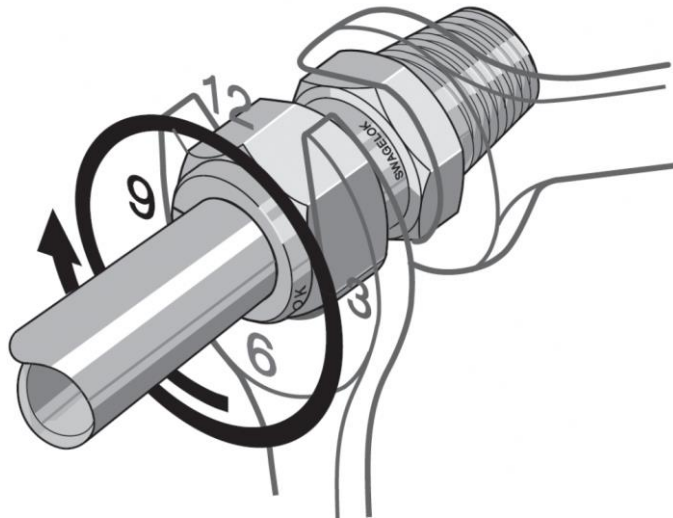

Figure 7: Tightening the Tube Nut to Swage the Stainless Steel Ferrules
7. For insertion type meters - after the meter is inserted to the correct depth with the pointer in the direction of flow (+/- 2 degrees), tighten the tube nut with the 1-1/8” open end wrench. To properly swage the stainless steel ferrules, use a back-up wrench (1-1/4” or 1-3/8” open end) and tighten the tube nut 1.25 turns (540 degrees) beyond finger tight. This is shown in Figure 7 below.